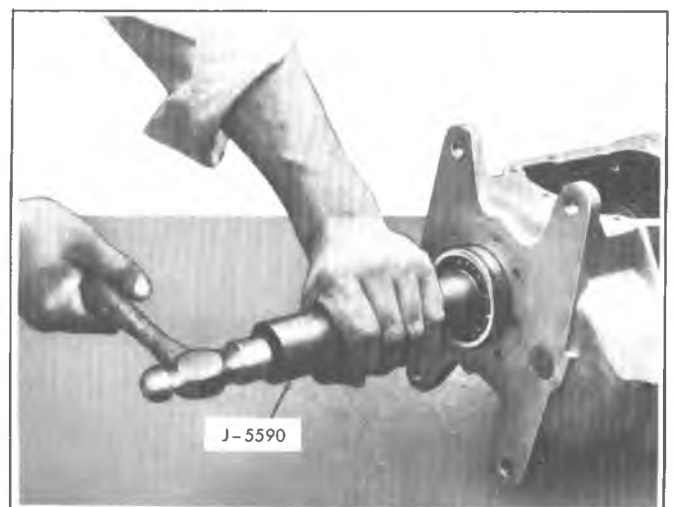

Fig. 7B-23K--Installing Front Main Bearing
4. Using a heavy grease install sixteen (16) roller bearings and washer into main drive gear. Mate main drive gear with mainshaft assembly. Position 3rd-4th clutch sliding sleeve forward. This will provide clearance for installation as well as hold the assembly together.
7. Place bearing snap ring on front main bearing. Position front main bearing to case opening and with a hollow shaft, or tool J-5590, tap bearing into case (Fig. 7B-23K). Install spacer washer and selective fit snap ring to secure main drive bearing.